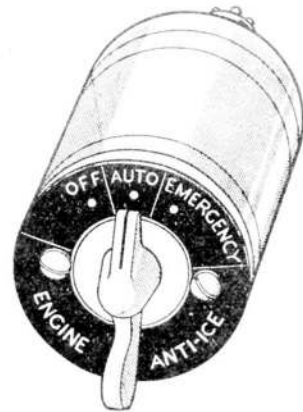
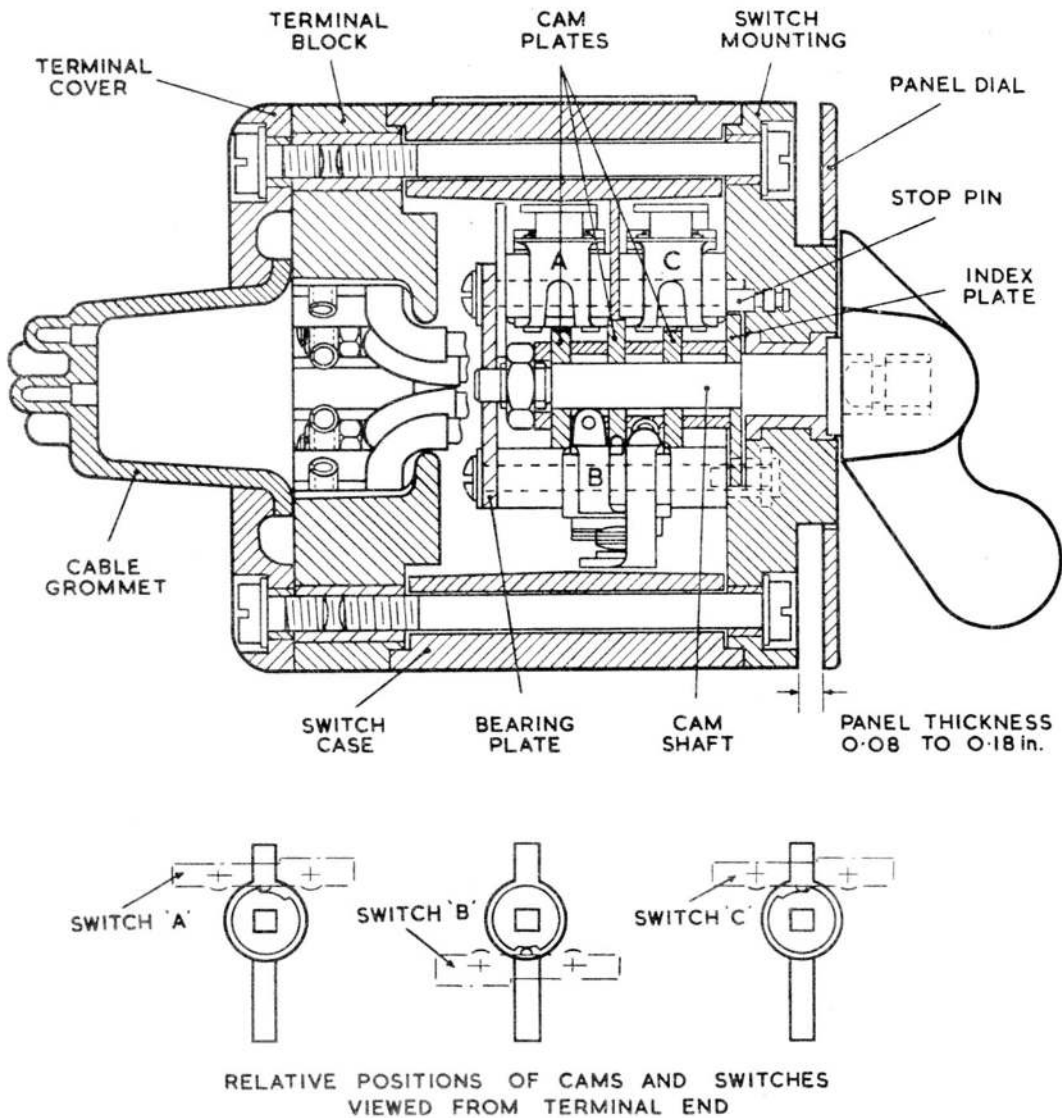

Fig. 1. Rotary switch, Type RS351, Mk. 4
Fig. 2 Sectional drawing of switch
2. A general view of the switch is given in fig. 1, with a sectional drawing in fig. 2. The switch has three positions, OFF, AUTO, and EMERGENCY, the latter engraved with red letters; at each setting of the operating knob, indentations on an index plate carried on the shaft engage with two spring-loaded balls in the switch mounting (not illustrated in fig. 2), so giving a positive detent action. A